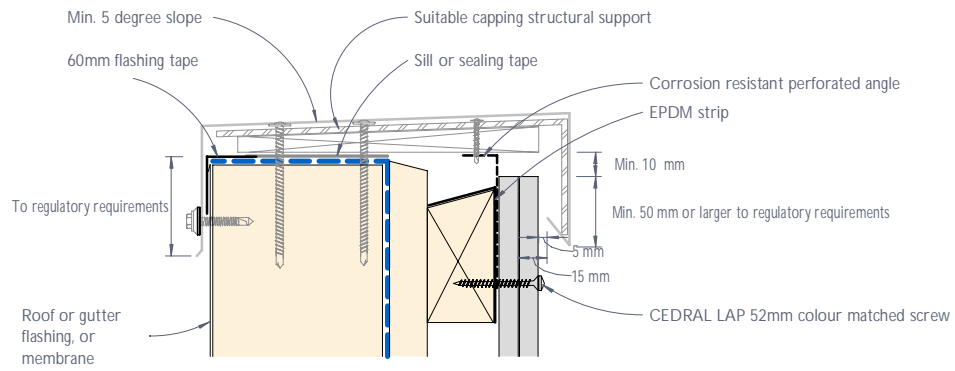

Figure 33: CEDRAL LAP typical capping detail
- 3) Capping shall be designed and engineered accordingly to provide adequate allowance for ventilation as shown in Figures 33 & 34.